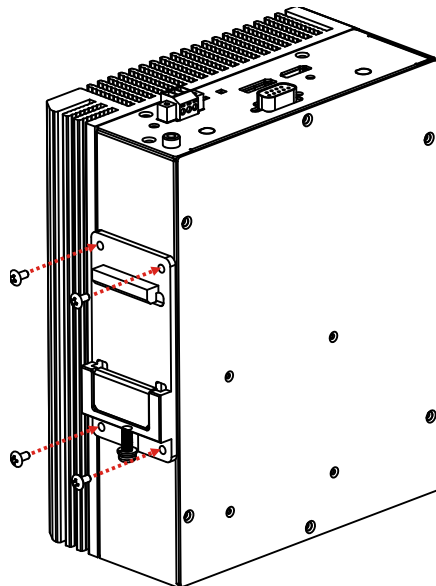

Figure 3-17: DIN Rail Mounting Bracket Installation
Step 2: Attach the mounting bracket to the rear panel of the DRPC-230-ULT5. Secure the bracket with four M3*6 retention screws (Figure 3-17).